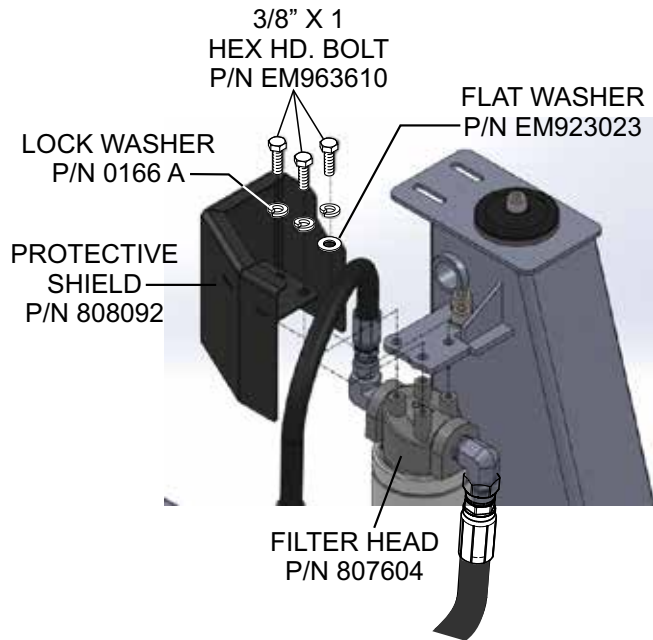

Figure 12. Attaching Hydraulic Oil Filter And Protective Shield
1. Using the three 3/8" bolts P/N EM963610 and associated hardware attach the new filter head P/N 807604 and protective shield P/N 808092 to the oil filter mounting bracket P/N 807663 as shown in Figure 12.